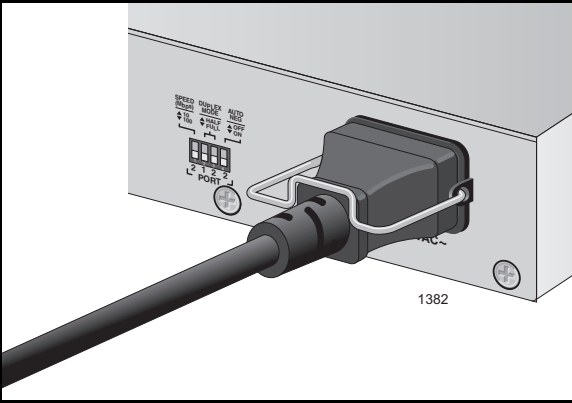

Figure 5 - Securing AC Power Cord with the Retaining Clip
4. For the AT-PC232/POE or the AT-PC2002/POE, install the AC power cord and secure it with the retaining clip provided with the media converter as shown in Figure 5, “Securing AC Power Cord with the Retaining Clip”.